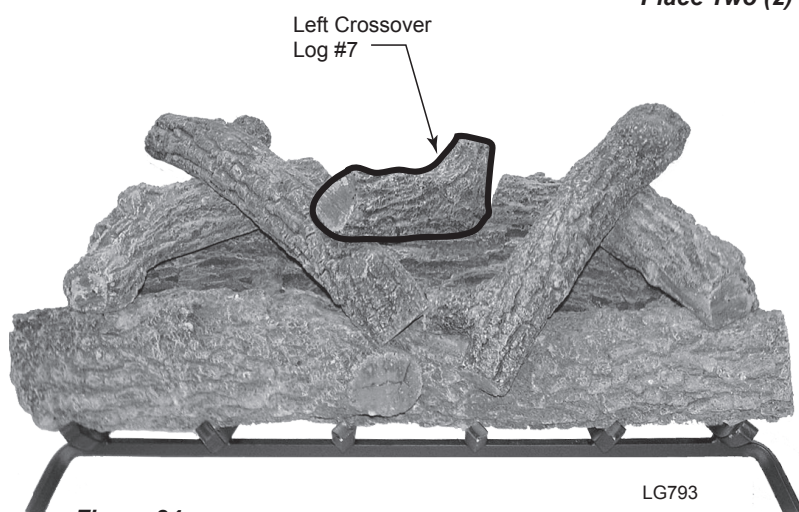

Figure 24 -
7. Place Left Crossover Log #7 on Log #2 and Log #5. *Figure 24*